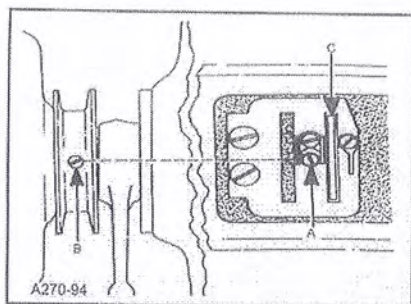

FIG.21
coming into view (A, Fig. 21) is in line with the spot screw (B) on the main shaft in the pulley. NOTE: screw (A) is accessible through the hole in the take-up. With this setting correct, the looper thread should cast-off of the take-up (C) when the needles are safely in the triangle. If adjustment is necessary loosen two screws (A) in take-up (C) position screws in line with spot screw (B). Tighten screws (A).